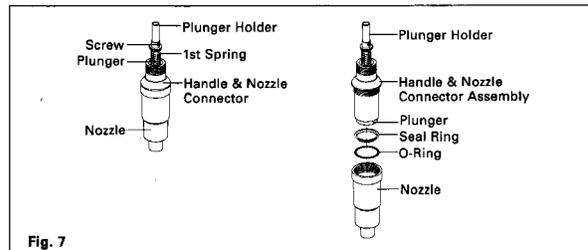

Fig. 7
3. Unscrew the nozzle from the plunger and nozzle assembly, the seal ring and O-ring may remain inside of the nozzle. So, remove both. (Fig. 7)